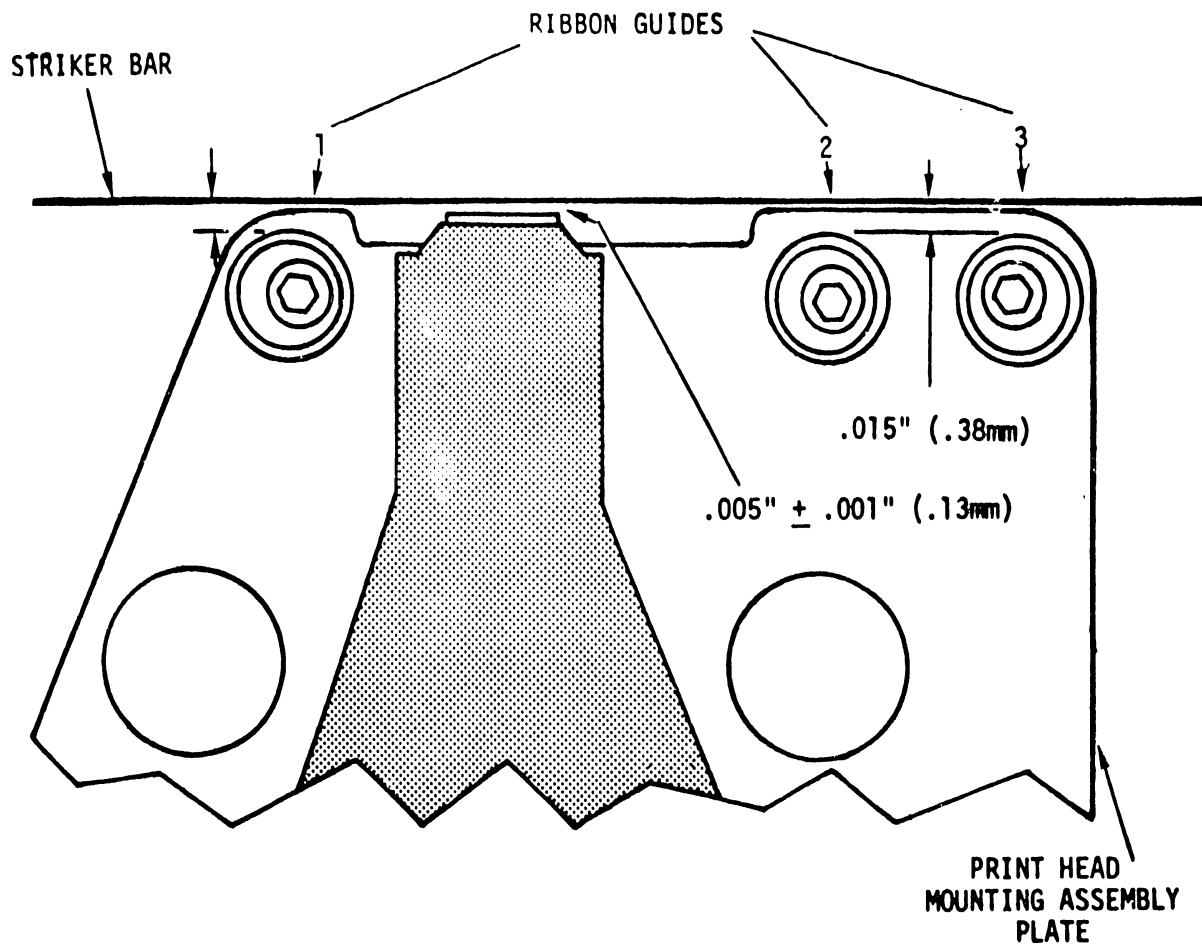

FIGURE 5-3 RIBBON GUIDES AND PRINT HEAD ADJUSTMENT
- 2) Continue by checking ribbon guides 1, 2 and 3. The ribbon guides should be  $.015"$  ( $.4 \text{ mm}$ ) from the striker bar. See Figure 5-3.